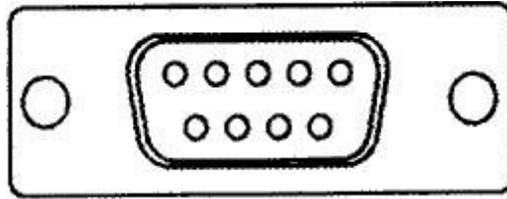

Figure 24
1. Connect a serial printer to the DB9 port (See Figure 24) on the back of the controller board.